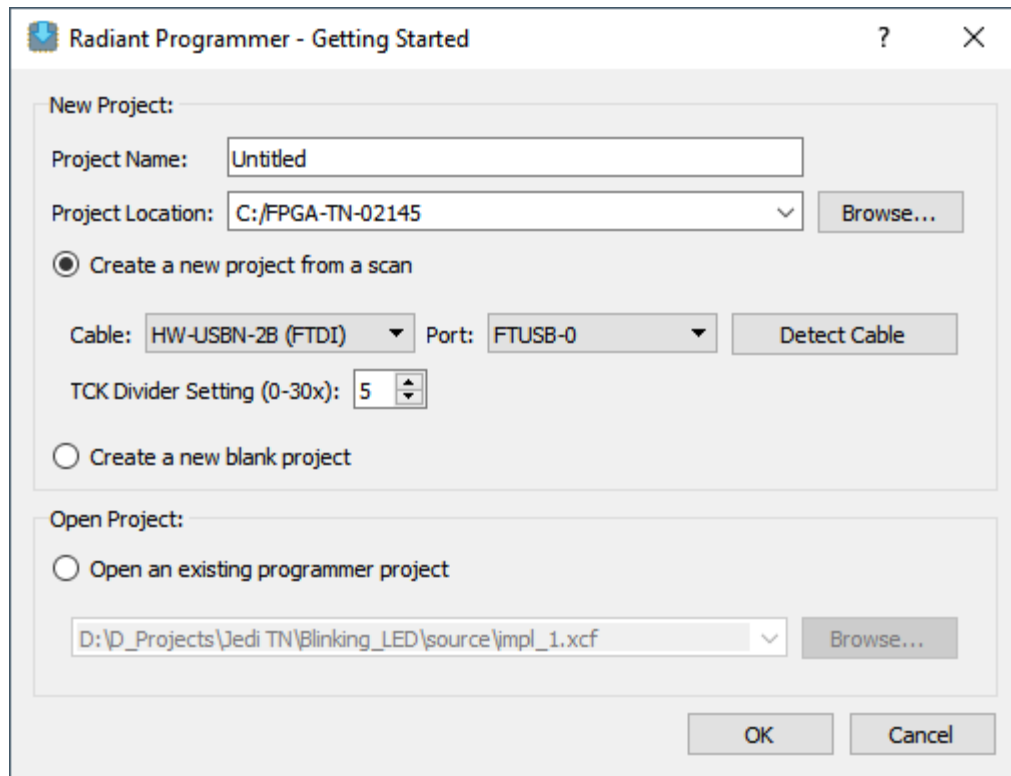

Figure 7.1. Radiant Programmer – Getting Started Window
3. Radiant Programmer – Getting Started window opens (Figure 7.1).
3. **Radiant Programmer – Getting Started** window opens (Figure 7.1).